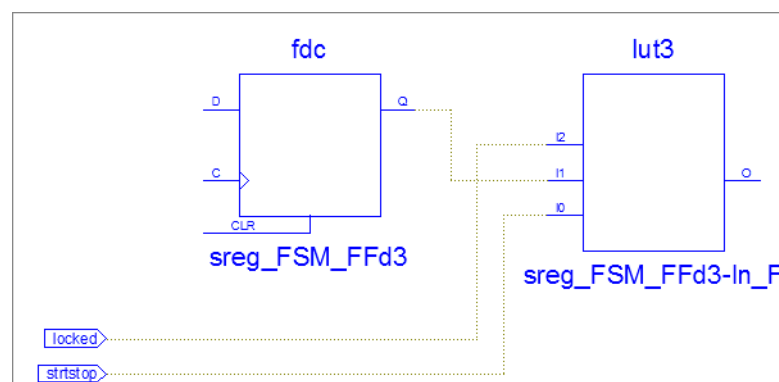
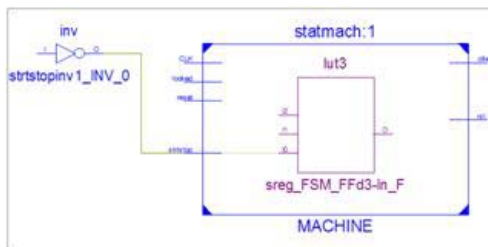

Figure 5-15: Start-Up Schematic
Figure 5-16: Step Schematic
5. Comparing the start-up schematic (Figure 5-15) with the one we obtained at Step 6: Showing and Hiding Block Contents (Figure 5-16), you see that the **sreg_FSM_FFd3-In_F** primitive is not placed inside the **MACHINE** hierarchy block. In addition, **MACHINE** I/Os are represented as primary design pins.